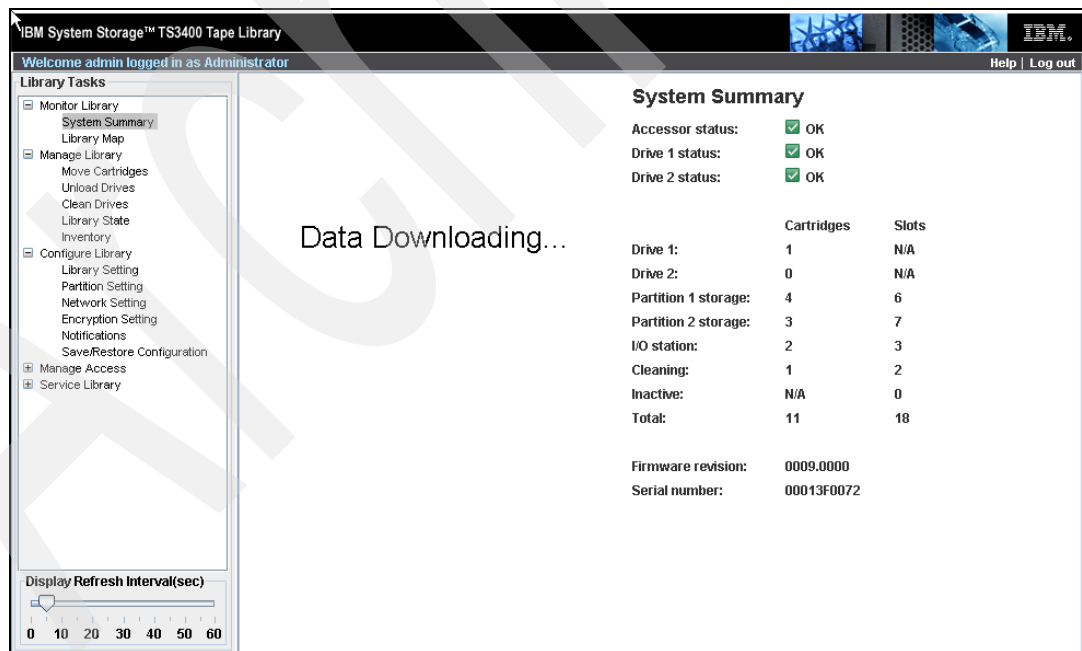

Figure 2-20 IBM TS3400Tape Library Specialist Summary panel
1. Partitioning is set up using the Tape Library Specialist Web interface. Using this, you will be asked to authenticate and will then see the summary screen shown in Figure 2-20.